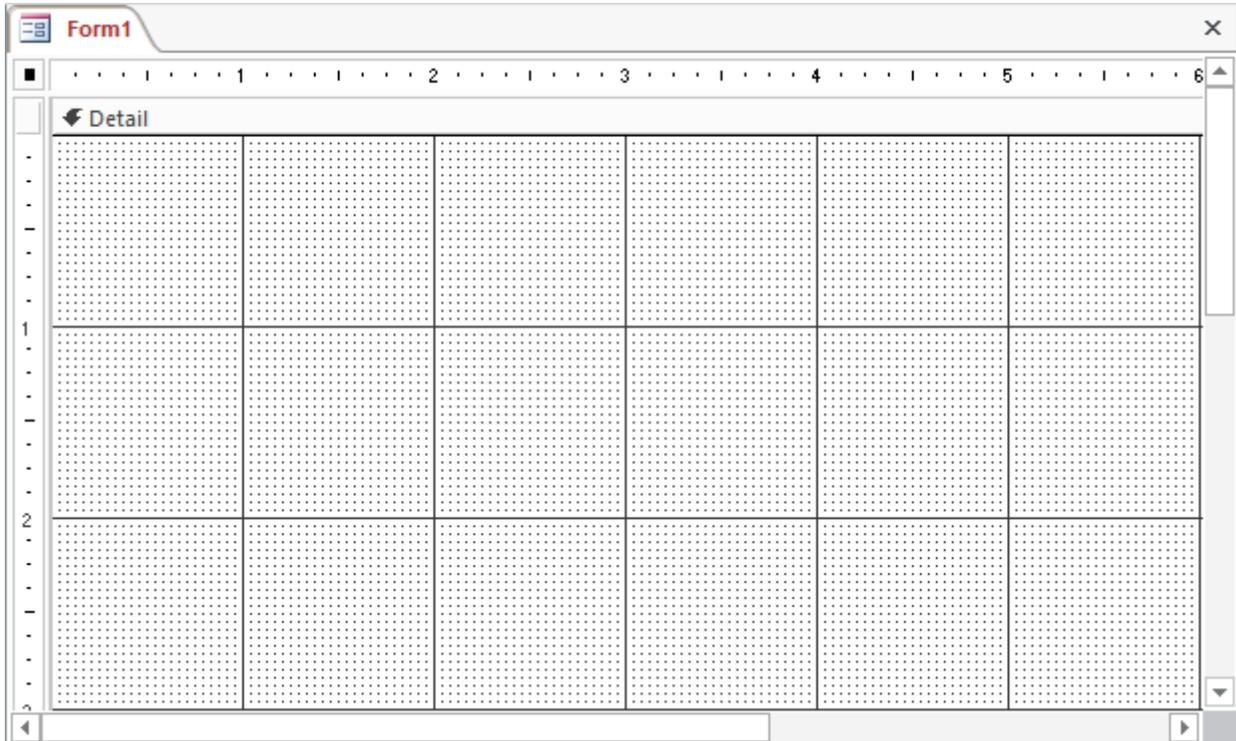

Figure 11: Empty Form Design Window
1. Open the New Form Window: Choose **Create → Blank Form** from the Forms group of the Ribbon. Select “Design View” from the View list. An empty Form Design window appears (Figure 11).